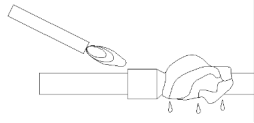

Figure 26 – wrap wet cloth before brazing
*WRAP WET CLOTH AROUND PIPE BEFORE PERFORM BRAZING TO PREVENT OVERHEAT PIPE AND DAMAGE COMPONENT AT PIPING. (Figure 26)*